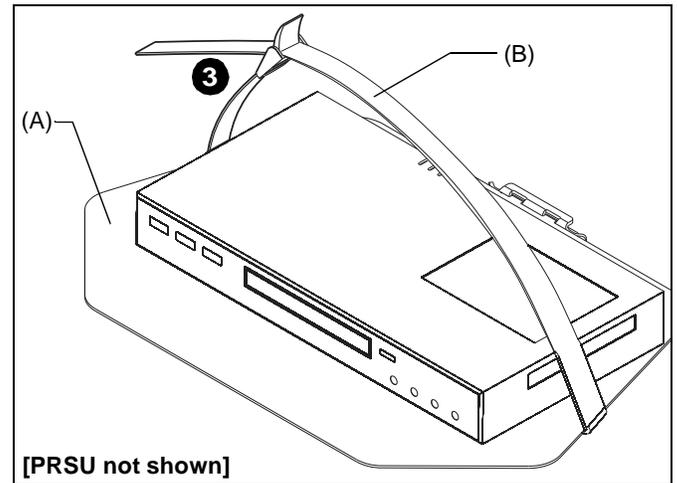

Figure 7
3. Loop strap (B) over top of equipment and slide strap end into clasp. (See Figure 7)